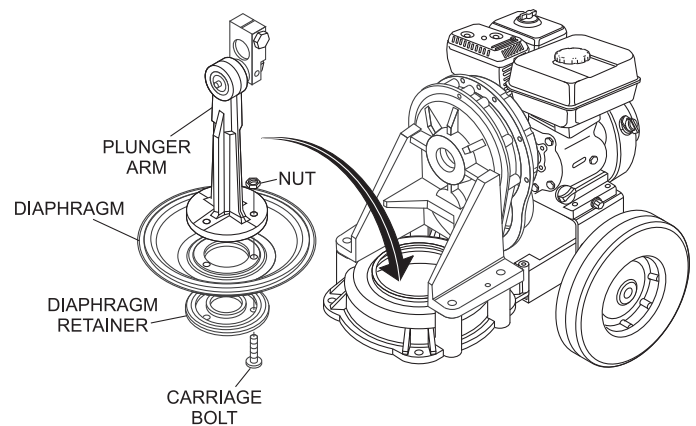

Figure 25. Diaphragm Replacement
6. Remove the three carriage bolts (Figure 25) that secure the diaphragm to the plunger arm base. Remove diaphragm.